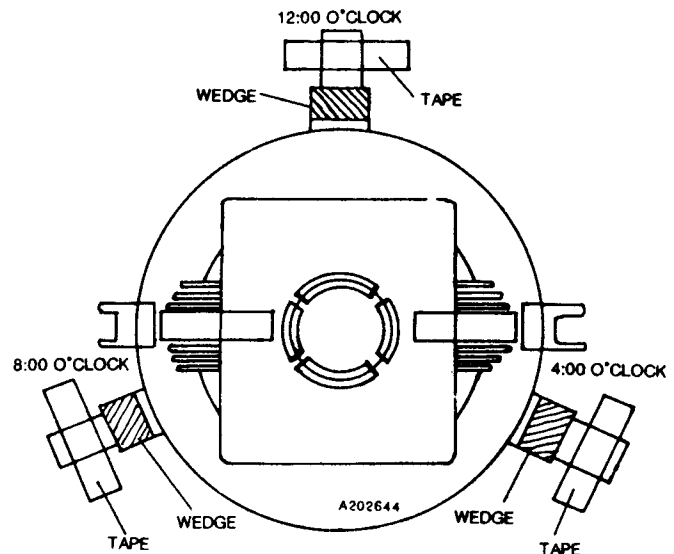

Fig. B6-2 Yoke Wedge Placement
1. Temporarily remove the three (3) wedges from under the front of the deflection yoke assembly (Fig. B6-2).
3. Replace wedge at 12:00 O'Clock position (Fig. B6-2).